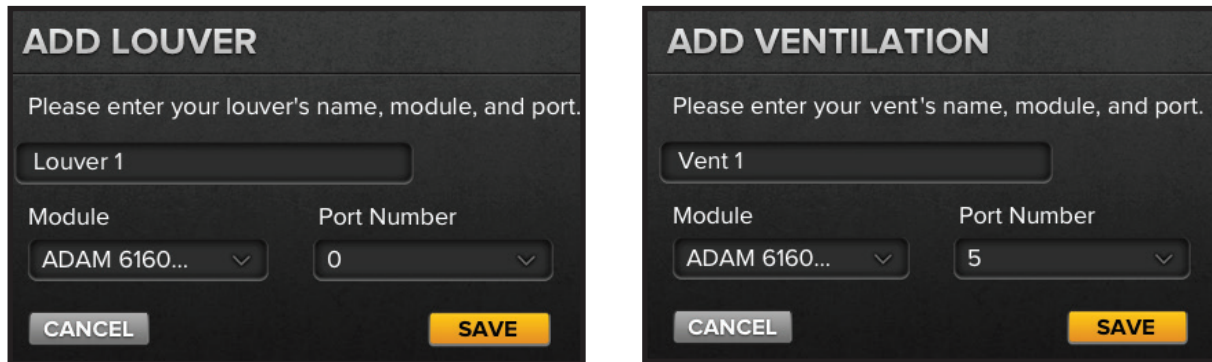

Figure 12—Add Louver and Add Ventilation dialog boxes
6. In the Add Louver or Add Ventilation dialog box (Figure 12), enter a name for the louver or vent, and then select the output module and port number that the louver/vent is connected to. Your output module and port number information should be recorded on page 28 of this manual.